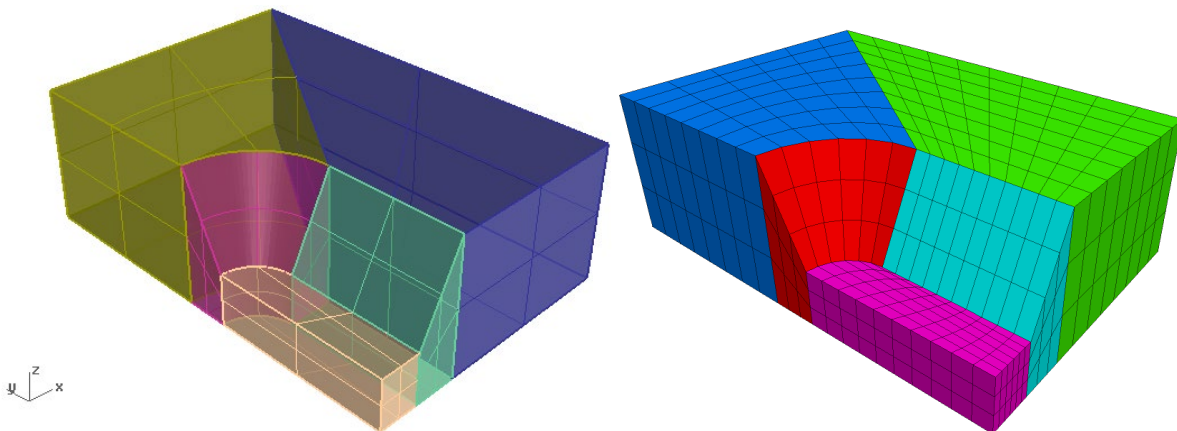
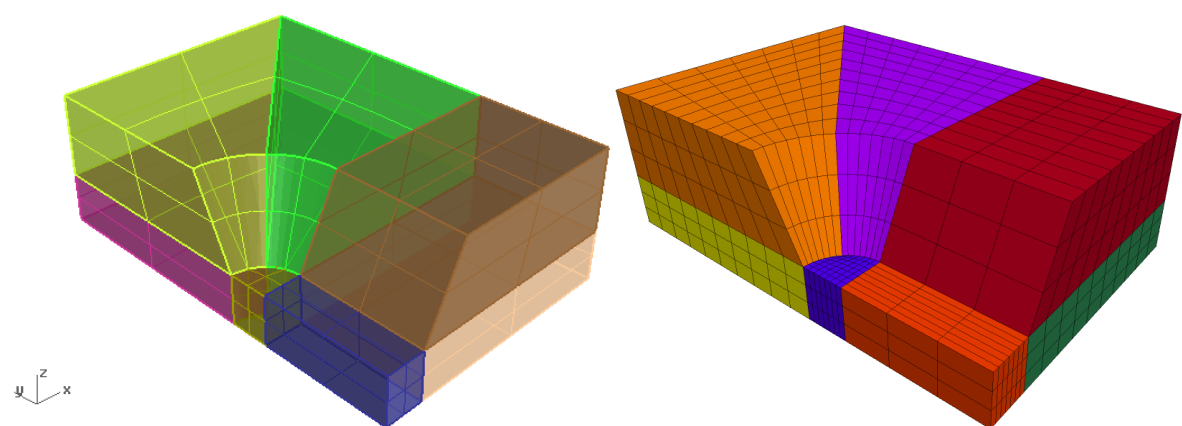
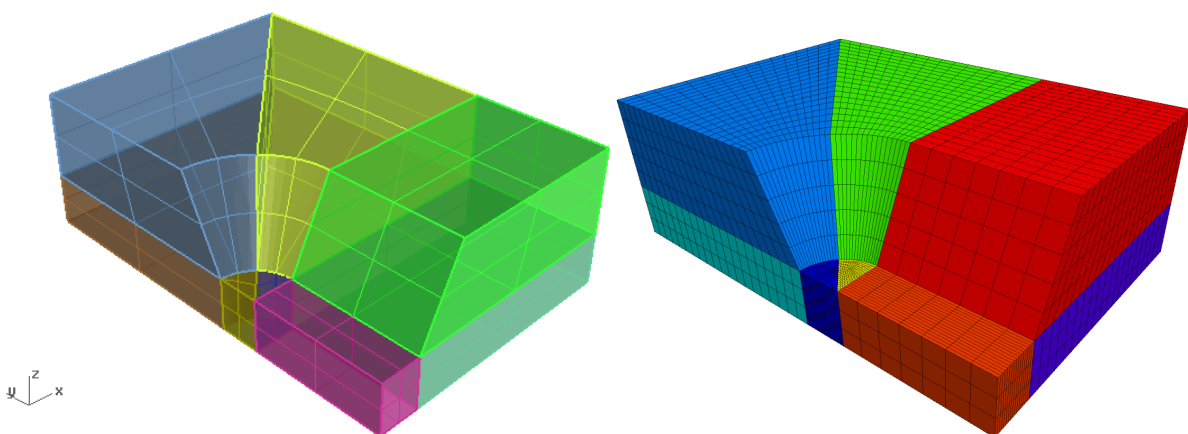

Figure 32: Solid layout resulting in five mesh blocks.
Figure 34: Solid layout resulting in eight mesh blocks.
Figure 35: Alternate solid layout resulting in nine mesh blocks.
**BlockRanger** operates on solids and meshes each solid block individually. The present model may be decomposed into solid blocks in many ways. Some of the possible options are shown in Figure 32 through Figure 35. The arrangement of blocks depicted in Figure 34 will be used in this tutorial.
Each of the blocks shown in Figure 32 through Figure 35 satisfy **BlockRanger** requirements for solids, which includes the following: